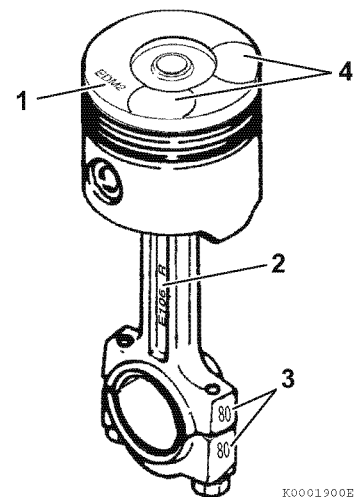

Figure 6-89
The piston and connecting rod must be assembled with the correct orientation. When correctly assembled, the identification mark (1, **Figure 6-89**) stamped into the top of the piston will be facing the same direction as the embossed mark (2, **Figure 6-89**) cast into the beam of connecting rod and the valve reliefs (4, **Figure 6-89**) in the top of the piston will be facing in the same direction as the matching marks (3, **Figure 6-89**) on the connecting rod and connecting rod cap.
*Note: The actual appearance of the match marks will vary but they will always be in the same locations (**Figure 6-89**).*